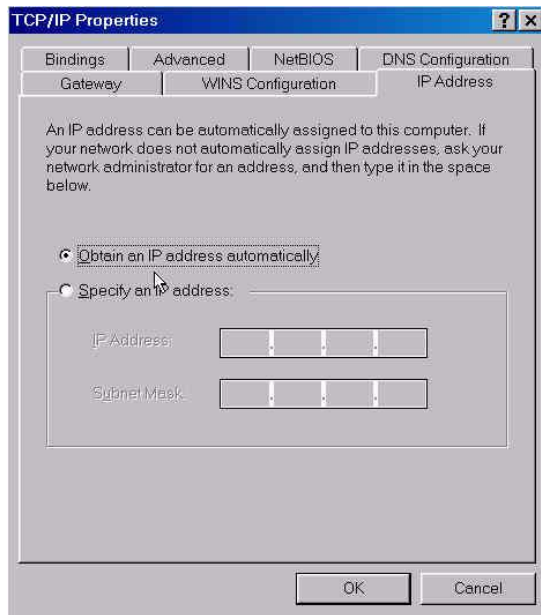

Figure 9 TCP/IP Properties Window
10. Select the **IP ADDRESS** tab on the **TCP/IP PROPERTIES** window (Figure 9).